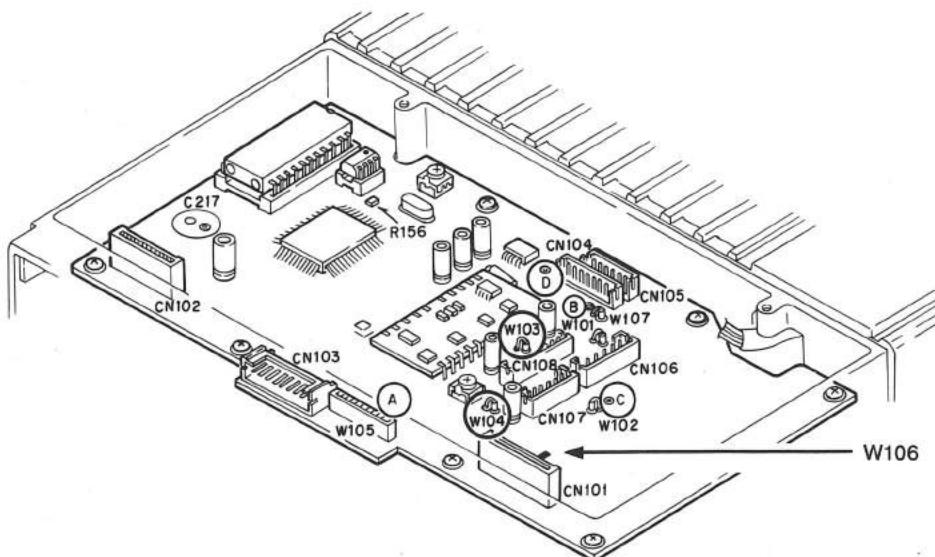

Fig. 1-5 Control unit (X57- A/4)
4. Install the KRK-3DH on radio 1 using the four flat head screws (N32-3006-46) (①).
5. Short W106 on the control unit by soldering. (Fig. 1-5)